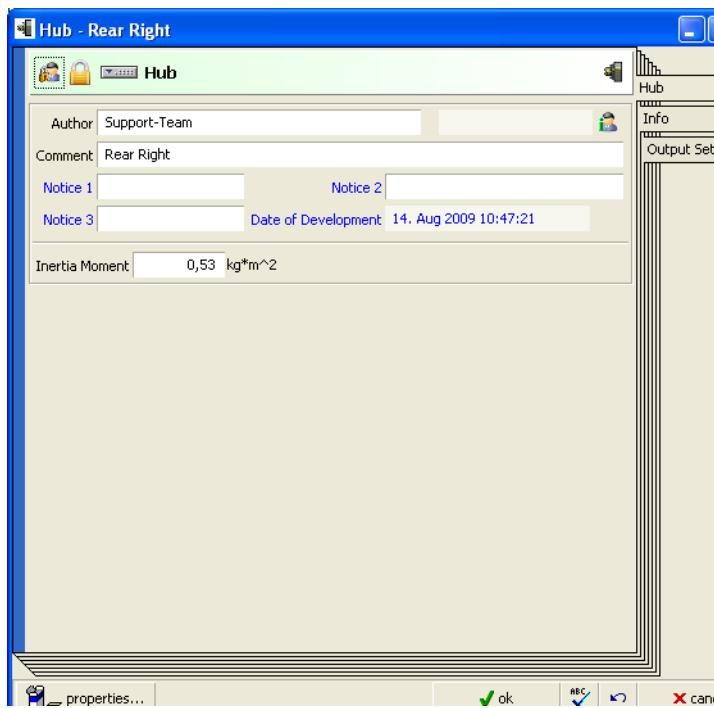

Figure 10.22: CRUISE: Hub module GU
**Hub Module** In the *Hub* module (see Figure 10.22: CRUISE: Hub module GU) there are even less parameters to set. Although it is possible to set a value for the *Inertia Moment*, this is not necessary because this value is overwritten with the wheel inertia given in the *Vehicle Data Set* of CarMaker.